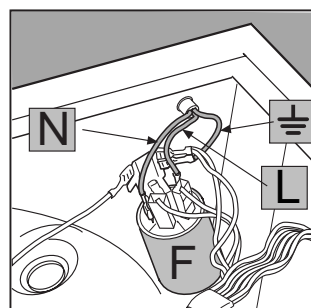

Fig. 14
3. Disconnect the wires from the radio interference suppressor F [fig. 14] noting as to their position (Blue=N wire; Brown=L wire) leaving the earth wire until last  $\perp$ .